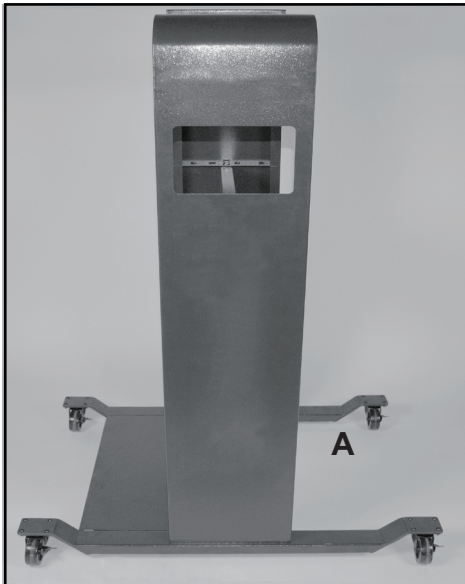
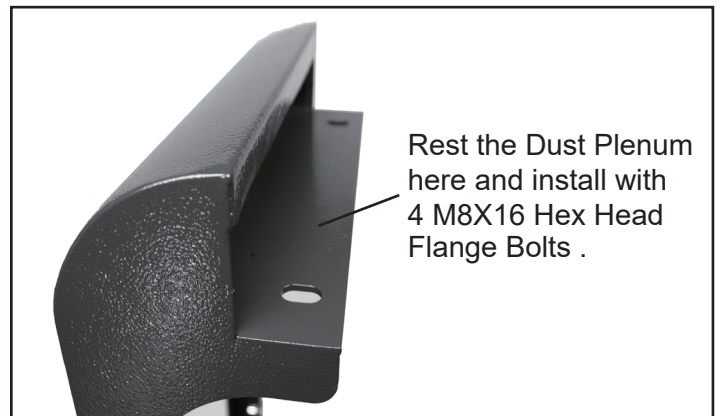
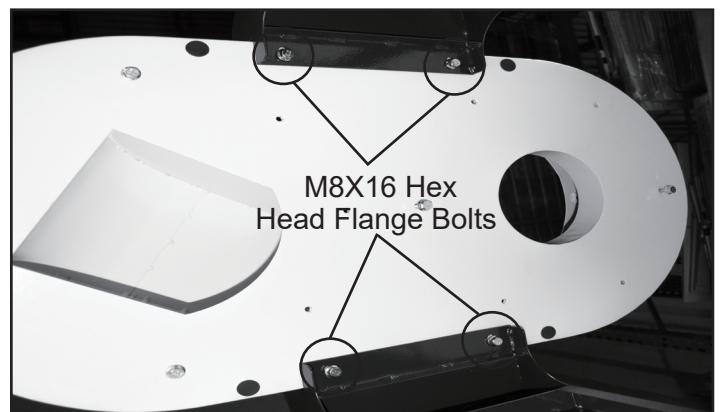

FIG. 4
FIG. 7
FIG. 8
1. Orientate the Support Panel Assembly as shown below. Figure 4.
2. Lift the Dust Plenum and rest on the ledge (Fig. 7) of the Support Panel Assembly and secure with 4 M8X16 Hex Head Flange Bolts (Fig. 8). Make sure the Cyclonic Separator is overhanging the open section of the baseplate (A-Fig. 4). Underside of the Dust Plenum shown Fig. 8.